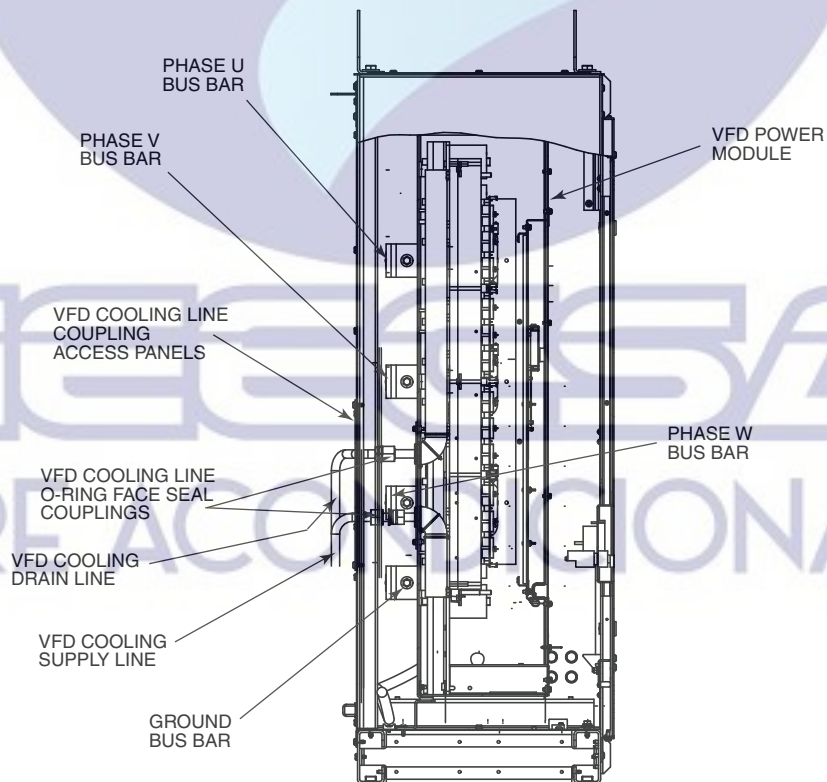

Fig. 26 — 900A or 1200A VFD Refrigerant Cooling Lines
7. Remove the access panels on the back of the VFD enclosure and disconnect the VFD cooling lines (Fig. 26). Cover all openings.
8. Install O-rings on VFD refrigerant connections using silicone grease. Using two wrenches, tighten connector to 27 to 33 ft-lb (37 to 45 N-m). See Fig. 26.